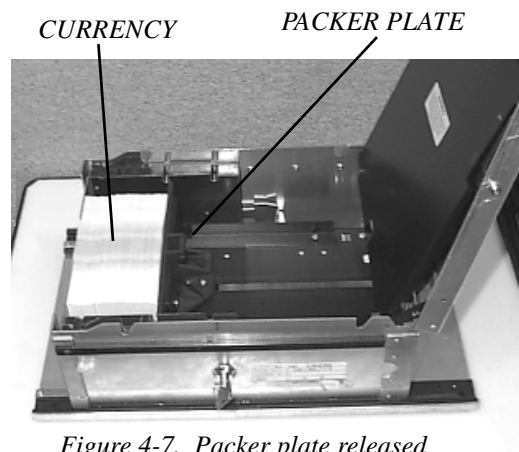

Figure 4-7. Packer plate released with currency in place.
7. Place the currency into the cassette. Allow at least one inch of clearance between the packer plate when it is fully retracted and the currency. This will allow the packer plate to compress the currency as shown in Figure 4-7. If you are changing the denomination of the bills in the cassette, you must change the MULTIPLE AMOUNT parameter in the Cash Dispenser to match (refer to Section 5 - Management Functions for procedures). Release the packer plate and lower the reject tray and the lid. The cassette can now be removed from the loading tray by sliding it forward.